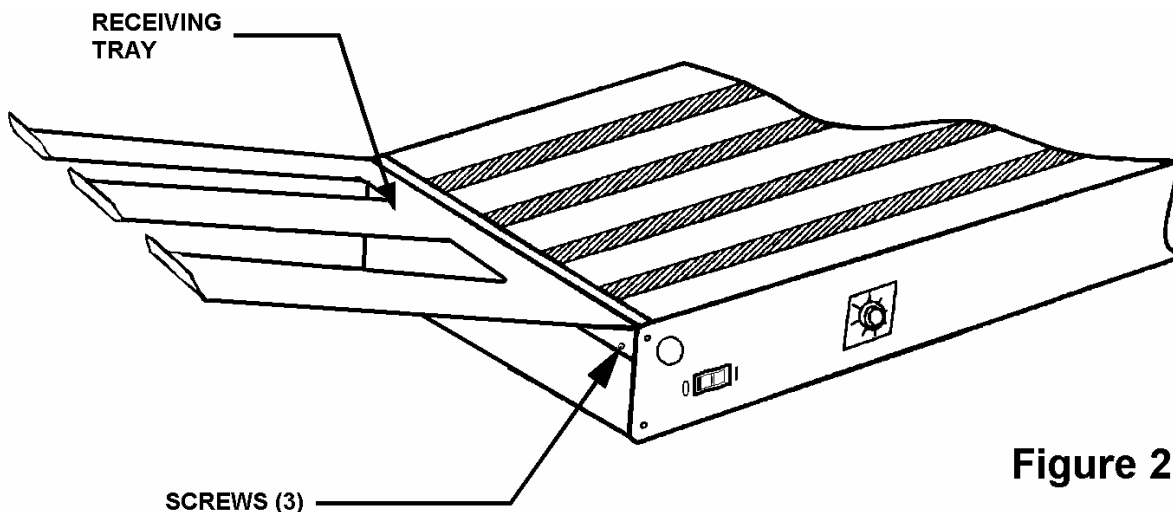

Figure 2
5. Place the conveyor on its base. Attach the receiving tray to the conveyor with (three) 10-32 screws provided (Figure 2).